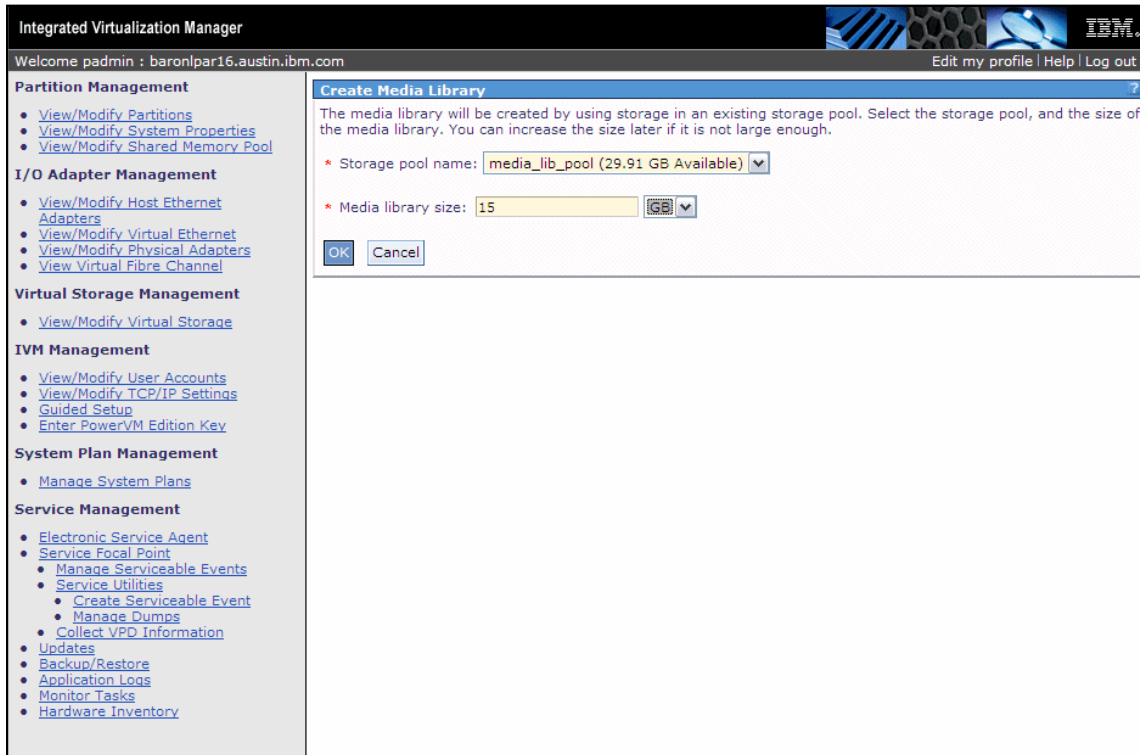

Figure 4-47 Media library size and storage pool
2. Select an available storage pool and the amount of storage space that will be used from this storage pool to create the media library, and then click **OK** as shown in Figure 4-47 on page 137.